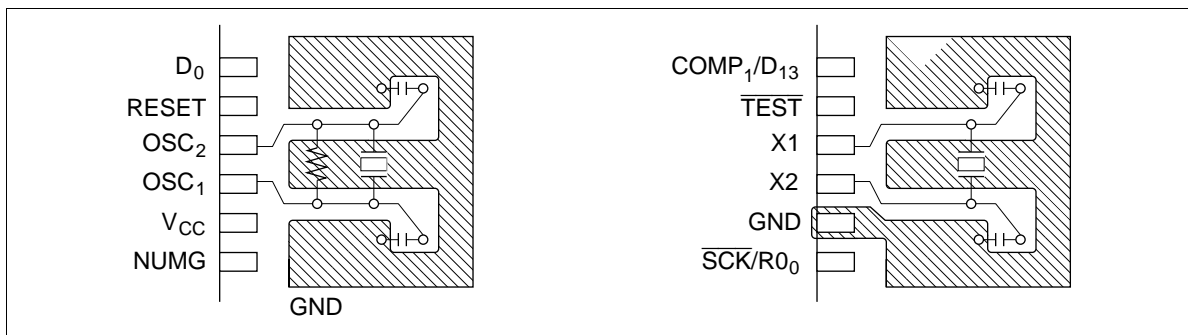

Figure 21 Layout of Crystal and Ceramic Oscillators
- Writing among OSC1 and OSC2 or X1 and X2, and other elements should be as short as possible, and should not cross other wires. Refer to figure 21.